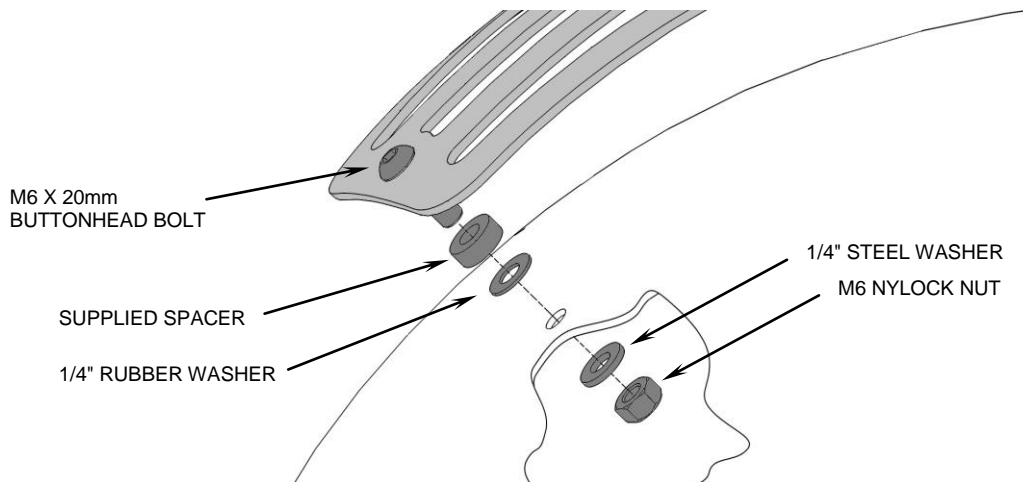

FIGURE 3
10. Install the lid guards using the supplied hardware in the order shown in Figure 3. Make sure all hardware has been fully tightened before riding. Open and close the saddlebag lids making sure the guards are secured.